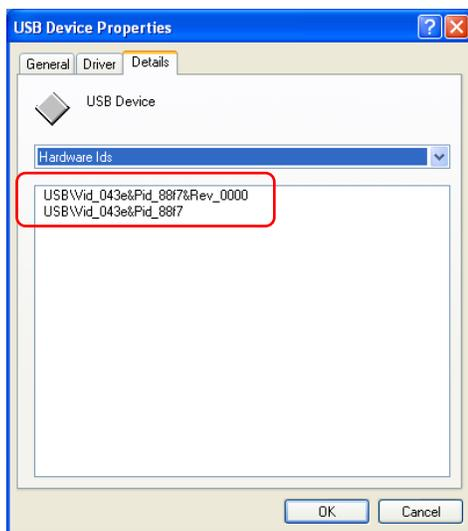

Fig. 4
- F. Under the drop down list of USB Device, select Hardware Ids as shown in Figure 4 and 5.